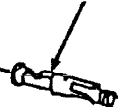

Figure 3
A. Tower Mounted as per Figure 3	20 square feet (1.86 m ² or sq. m) of wind surface area
*Maximum Effective Moment (EM)	3400ft. lb. (470 Kg. m)